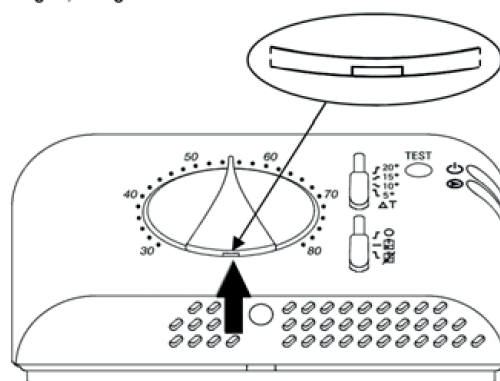

Fig. 3
- 2** Move both sliders all the way down and position the knob at 'Off'; lift the knob using a screwdriver as shown by the arrow in Fig. 3, being careful not to scratch the cover.